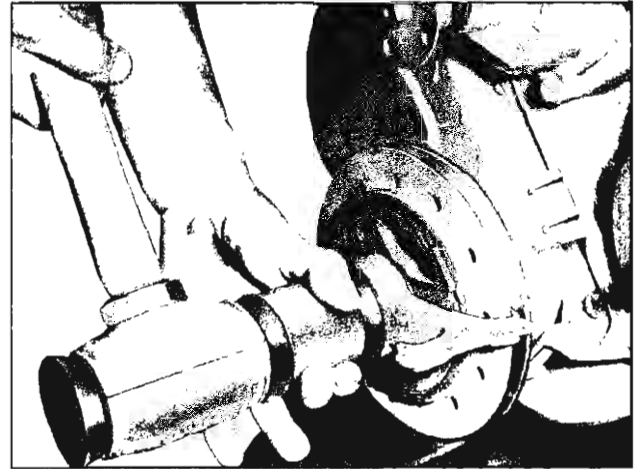

Fig. 30—Installing Harmonic Balancer
2. Attach balancer installer tool to balancer as shown in Figure 30.